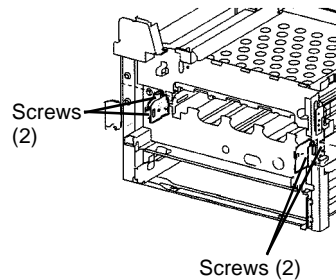

Figure 1 Removing Left and Right Hinges
10. Remove Left and/or Right Hinges (Figure 1).
- a. Remove screws (2) and remove Hinge.
- b. Remove screws (2) and remove Hinge.